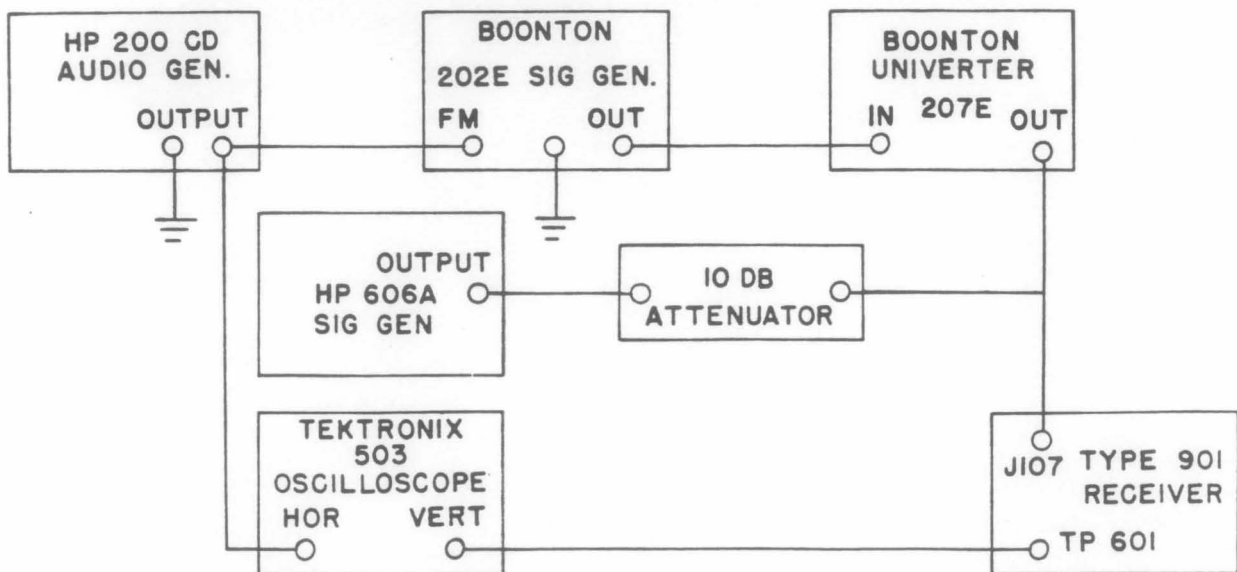

Figure 5-11. Type 901 Receiver, Equipment Setup, V601 to V602 Interstage Alignment, 20-kc Bandwidth
- (1) Set up test equipment as shown in Figure 5-11.